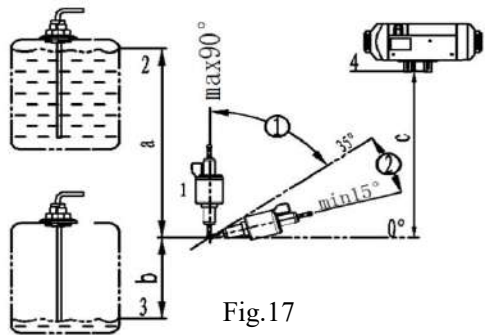

Fig.17
4.4.1 The fuel pump shall be fixed in automobile with a fuel pump clamp with protective rubber cover. The outlet of the fuel pump shall tilt upwards. The tilt angle can be selected from the range of $15^{\circ} \sim 35^{\circ}$ (as shown in Fig. 17). When conditions permit, the fuel pipe between the fuel pump and the heater shall go up gradually.
4.4.3 Difference in elevation between the level of fuel and the fuel pump as well as the difference in elevation between the fuel pump and the fuel inlet of the heater can produce pressure (or suction) in the fuel pipeline(See Fig.17).So, these dimensions shall conform to the requirements as follows: